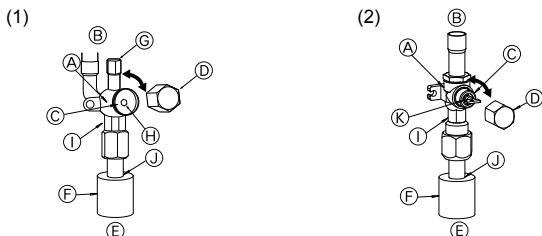

Fig. 4-6
- (1) Liquid side of stop valve (Fig. 4-6)
- ① Remove the cap and turn the valve rod counterclockwise as far as it will go with the use of a 4 mm hexagonal wrench. Stop turning when it hits the stopper. (Approximately 10 revolutions)
- ② Make sure that the stop valve is open completely and rotate the cap back to its original position.